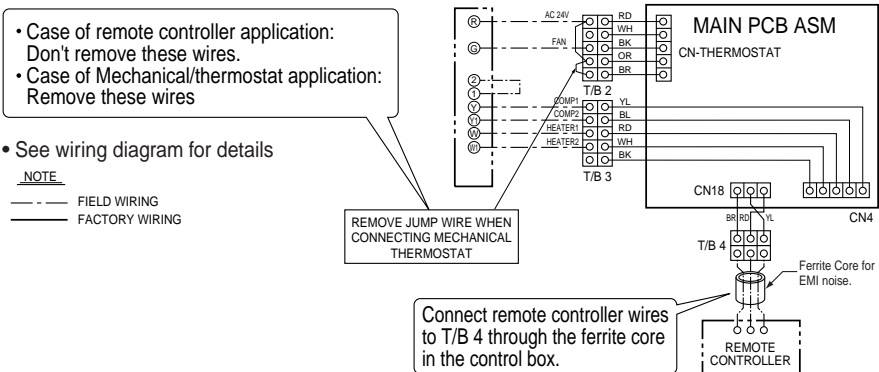

Figure 5C
■ Cooling only - 2 Comp, 2 Heater(Figure 5C)